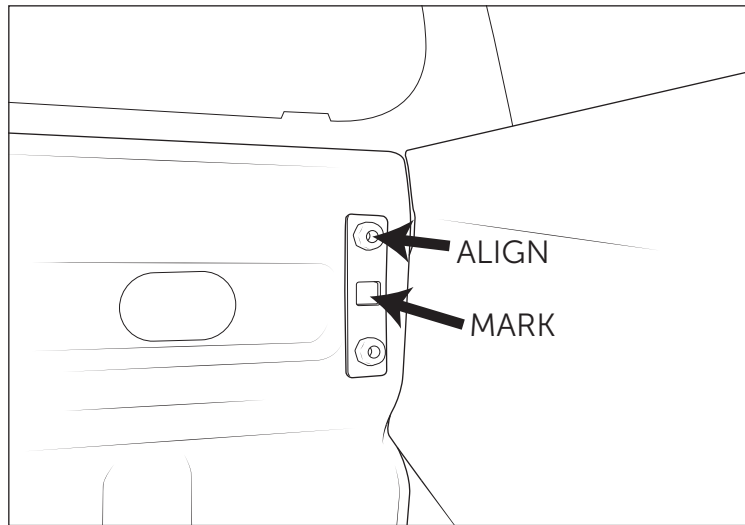

Figure 3
- Align the provided nut plate with the marked hole on the bulkhead as shown (fig. 3). Mark the carriage bolt hole location only. NOTE: only the top nut on the nut plate will be used.